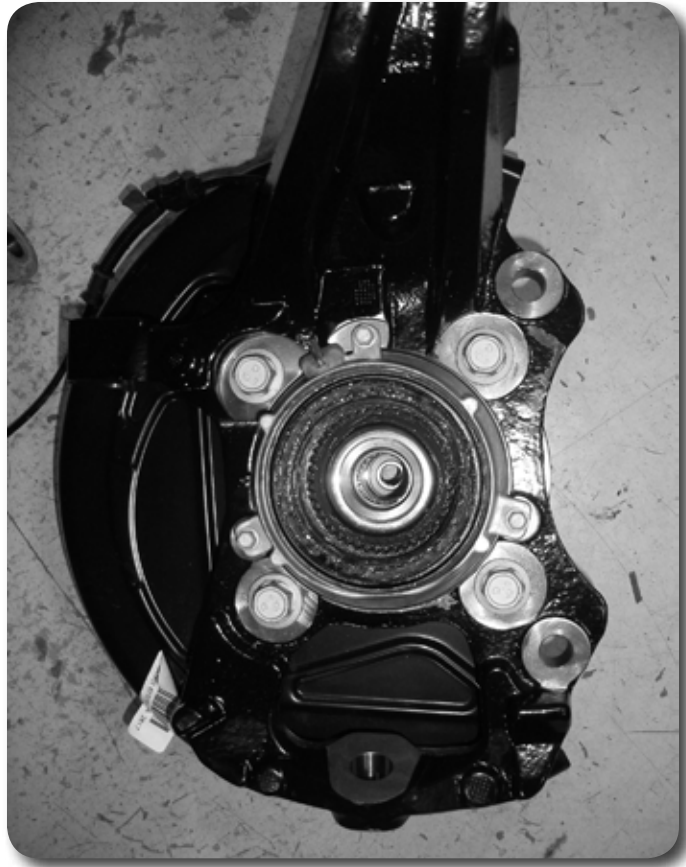

Figure 32
58. Remove the three 6mm bolts mounting the vacuum hub assembly to the inside of the factory knuckle **Figure 32**. Transfer the vacuum assembly over to the new knuckle. Make sure the vacuum port is pointing towards the top. Attach with the factory bolts, tighten bolts securely (about 5-7 ft-lbs).